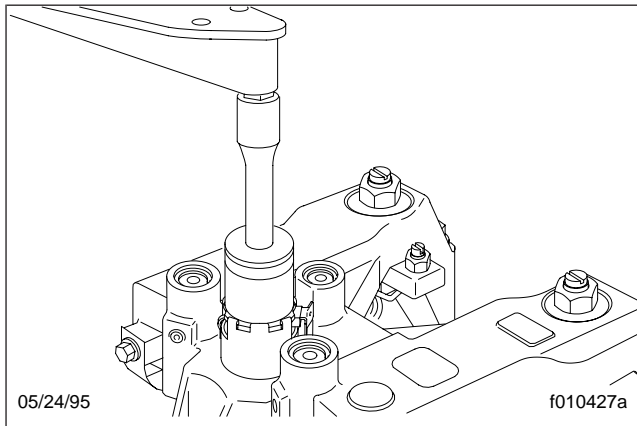

Fig. 1, Unscrew the Solenoid Valve
6. Using a 7/8-inch socket and extension, unscrew the solenoid valve. See Fig. 1.